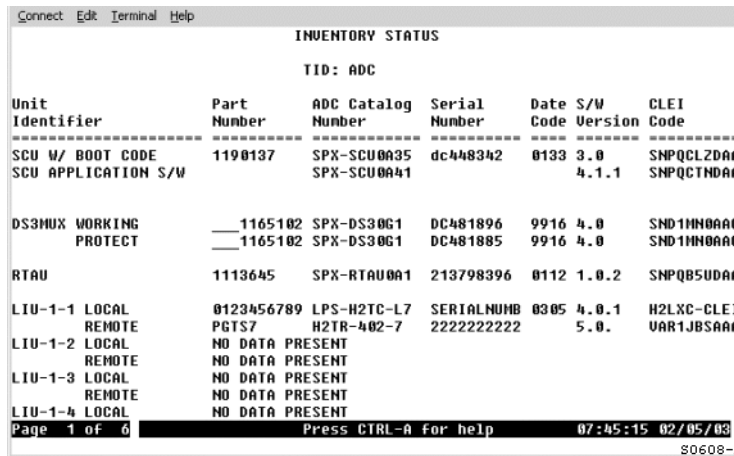

Figure 14. Inventory Status Screen
- 3 From the System Maintenance menu, select **Display Inventory**. The Inventory Status screen appears as shown in Figure 14 on page 23.